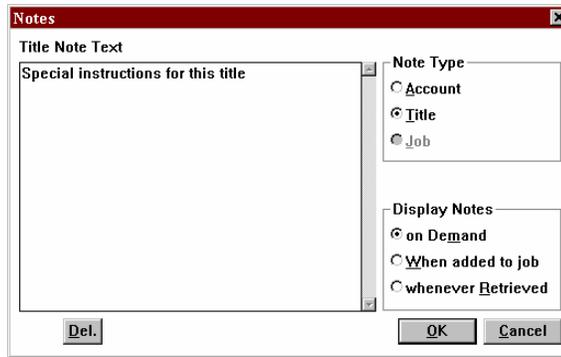

Figure 49 - Notes
**Notes** click this button to display the title note window (see Figure 49), allowing you to enter notes for the title.
The title's Notes window (Figure 49) is displayed when you click the **Notes** button. This window allows you to enter special instructions to be associated with the title.